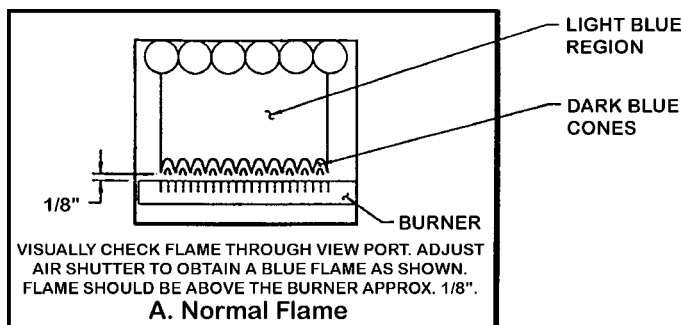

Figure 17. Normal Flame Characteristics
- Cause no excessive lifting of flame from burner ports (see Figure 17).
This is a powered burner and the flame is not supposed to be on the burner. The flame should be just above the burner deck approximately 1/8" and blue in color (see Figure 17).
Visually check flame characteristics through the view port located under the left-hand header on the boiler. Figure 17 shows the normal flame condition. Also, refer to the flame label on the unit (adjacent to the view port).